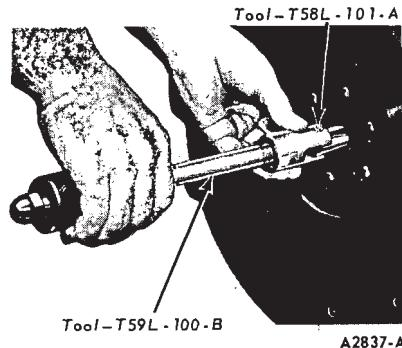

FIG. 36—Removing Clutch Pilot Bushing
2. Using tools T59L-100-B and T58L-101-A, remove the pilot bushing (Fig. 36).